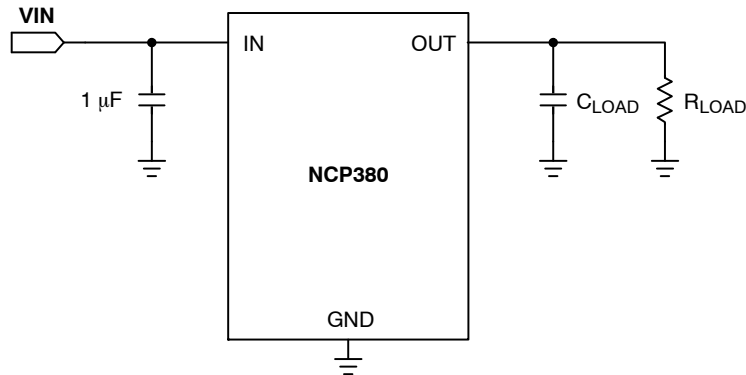

Figure 3. Test Configuration
10. Parameters are guaranteed for C_{LOAD} and R_{LOAD} connected to the OUT pin with respect to the ground, See Figure 3.